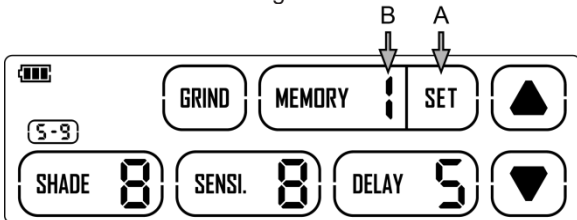

fig. 8b
Step 3: After finishing all settings, touch “SET” for save (see fig. 8b-A), the “1” after “MEMORY” (see fig. 8b-B) will take a flash, which means the system has saved the parameters just set and name this set as “1”.